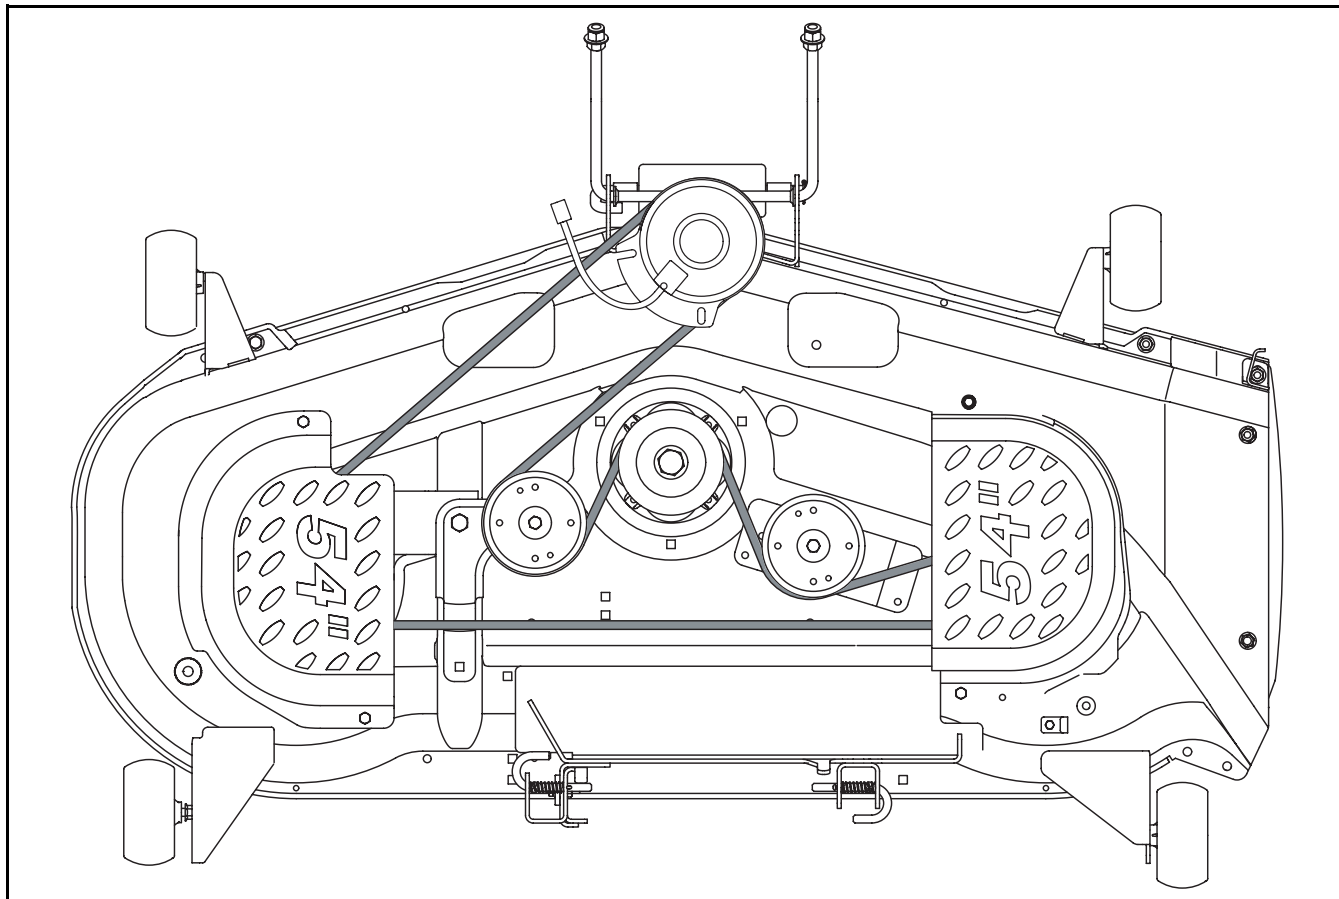

Figure 24
- Route the new belt as shown in Figure 24.